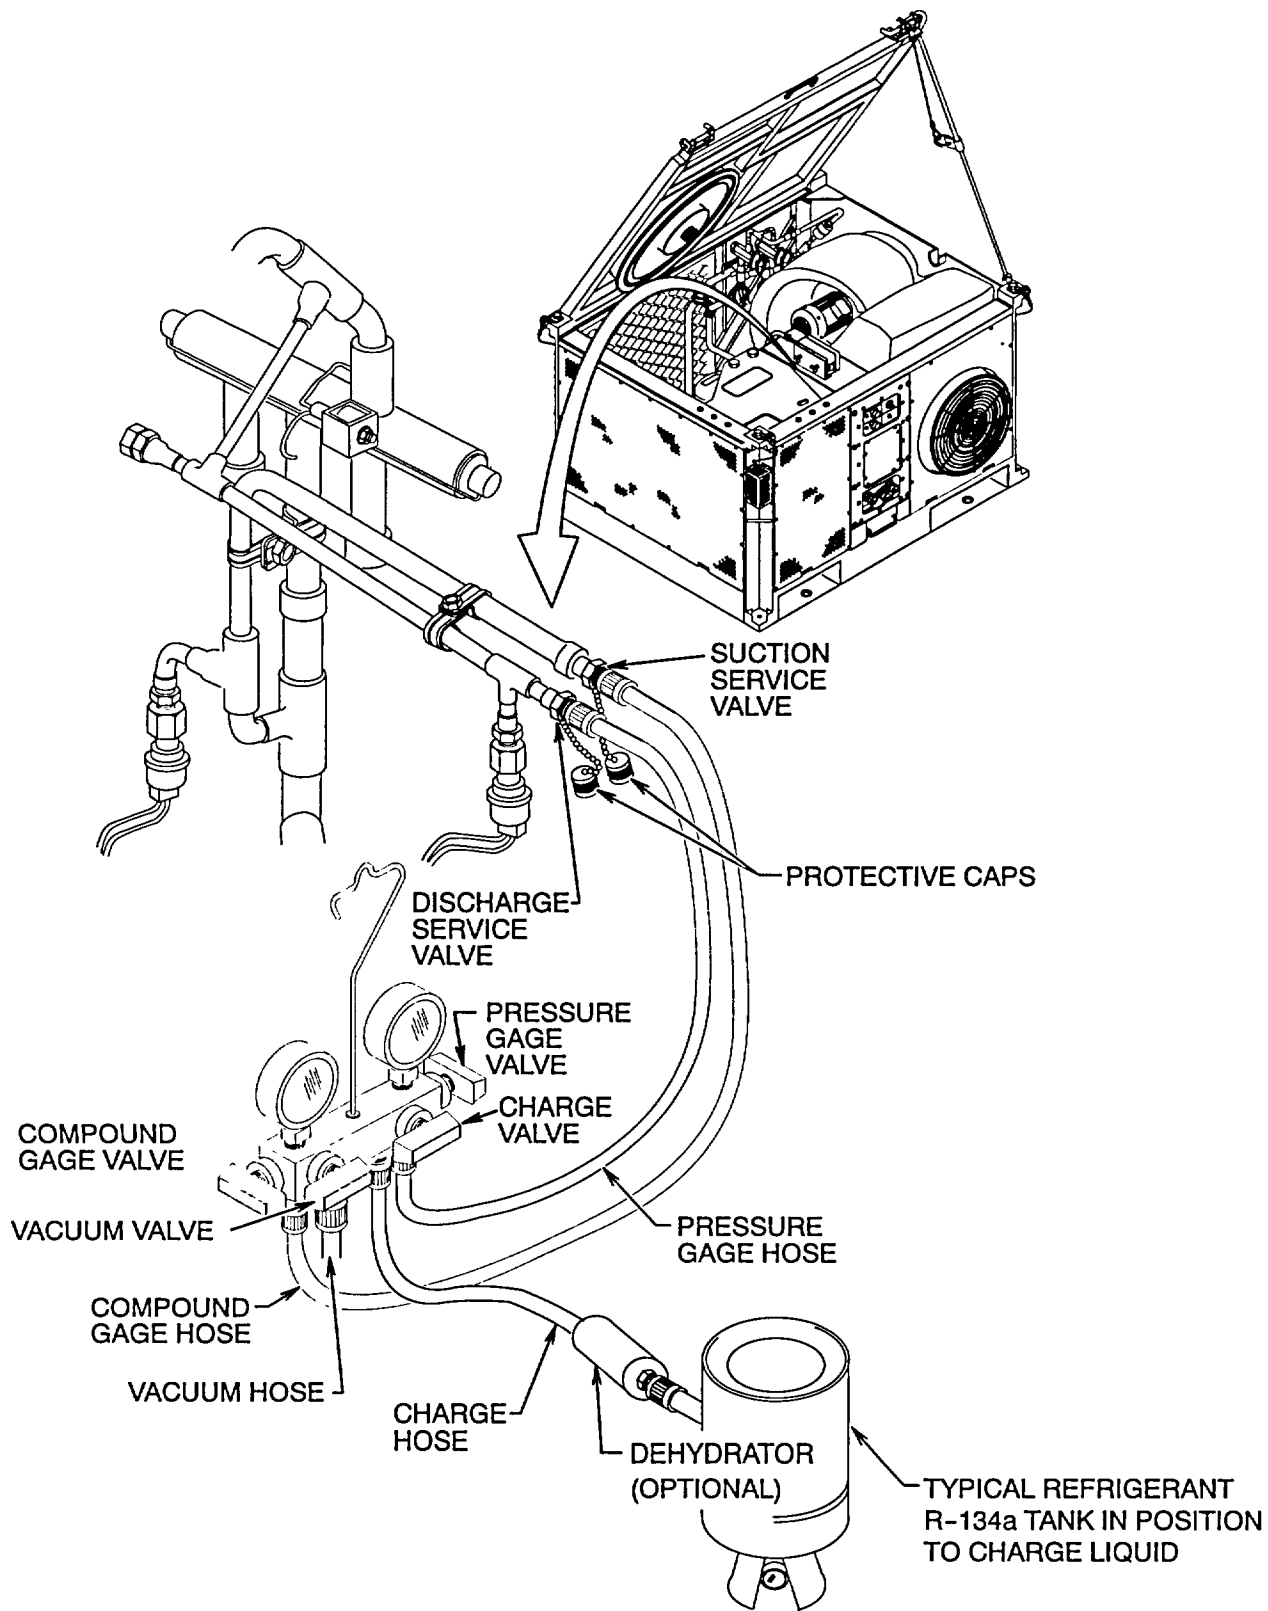

Figure 5-6. Refrigerant Charging (Total System)
- a. **Full Charge.** See figure 5-6.